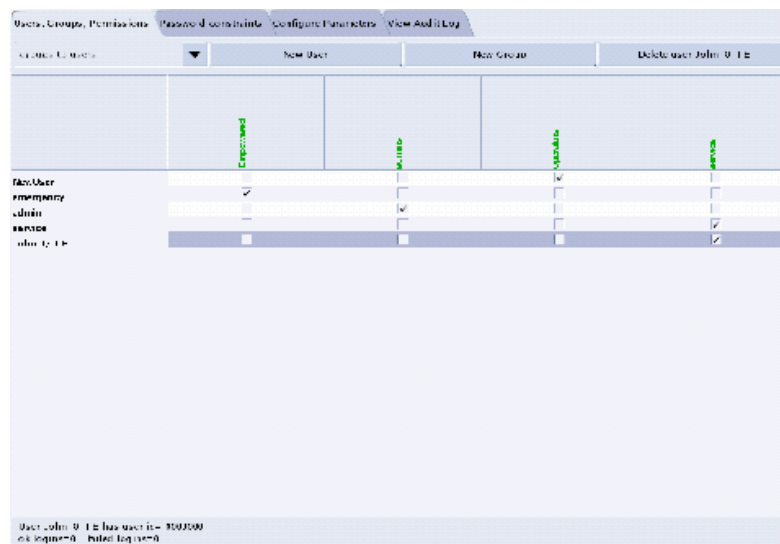

Figure 2-15 Using the User, Groups, Permissions screen
- 8.) If an account for a service user has been added, select groups to users from the pull-down menu, and assign the service user to group Service by selecting the check-box under Service in the row of the new user name, e.g., John_Q_FE (see Figure 2-15).